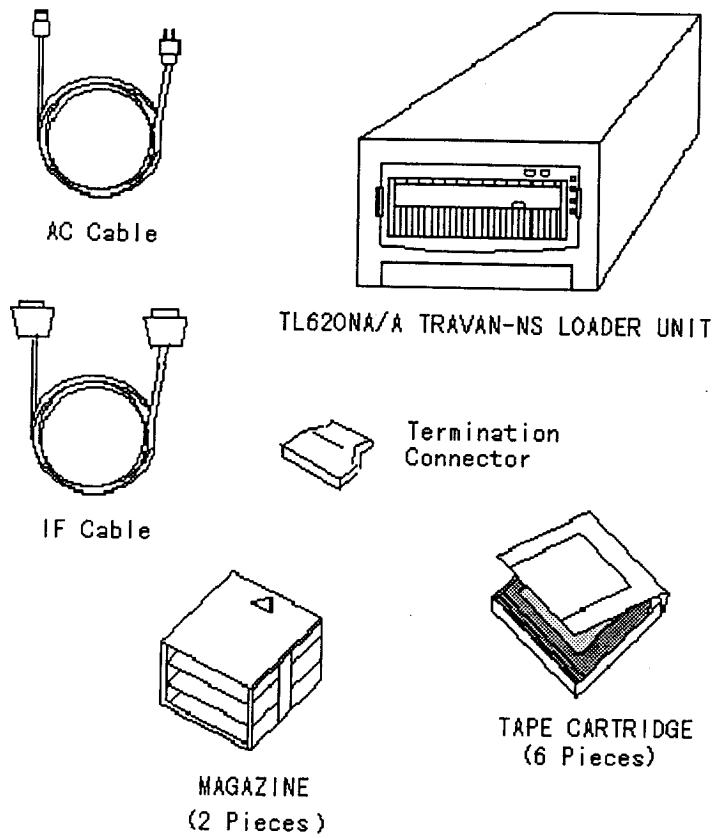

Figure 1-1
1. *The Composition(see figure1-1)*